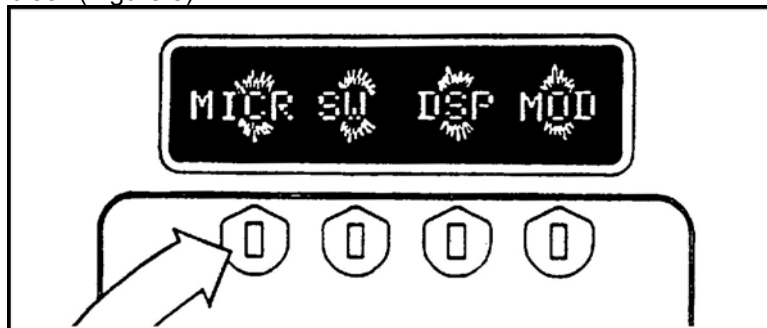

Figure 5. First DISPLAY switch.
- a. Test the microprocessor first. Press the first DISPLAY switch just below the first flashing character block (Figure 5).